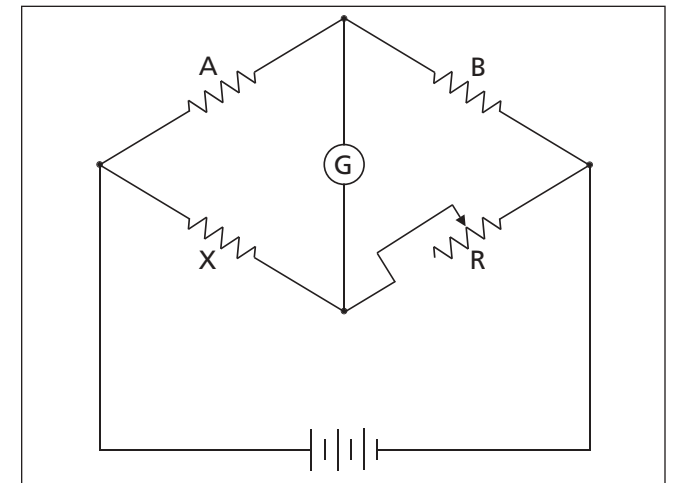

Figure 26: Wheatstone Bridge circuitvii
A pioneering method for measuring resistance was devised in 1833 by S. H. Christie and made public by Sir Charles Wheatstone. The simplest arrangement is a square pattern of four resistors with a galvanometer connected across one diagonal and a battery across the other (see Figure 26). Two of the resistors are of known appropriate values and comprise the ratio arm (A + B). A third has a known value which can be varied in small increments over a wide range, and is thus designated the rheostat arm (R). The fourth is the resistance being measured, the unknown arm (X).